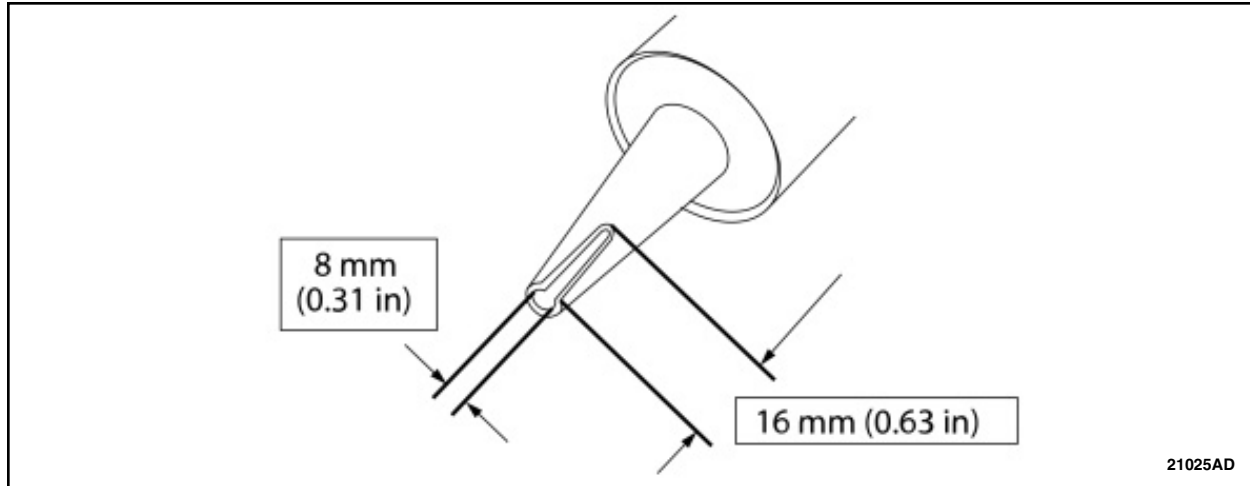

FIGURE 25
32. Cut the urethane adhesive applicator tip to specification. See Figure 25.